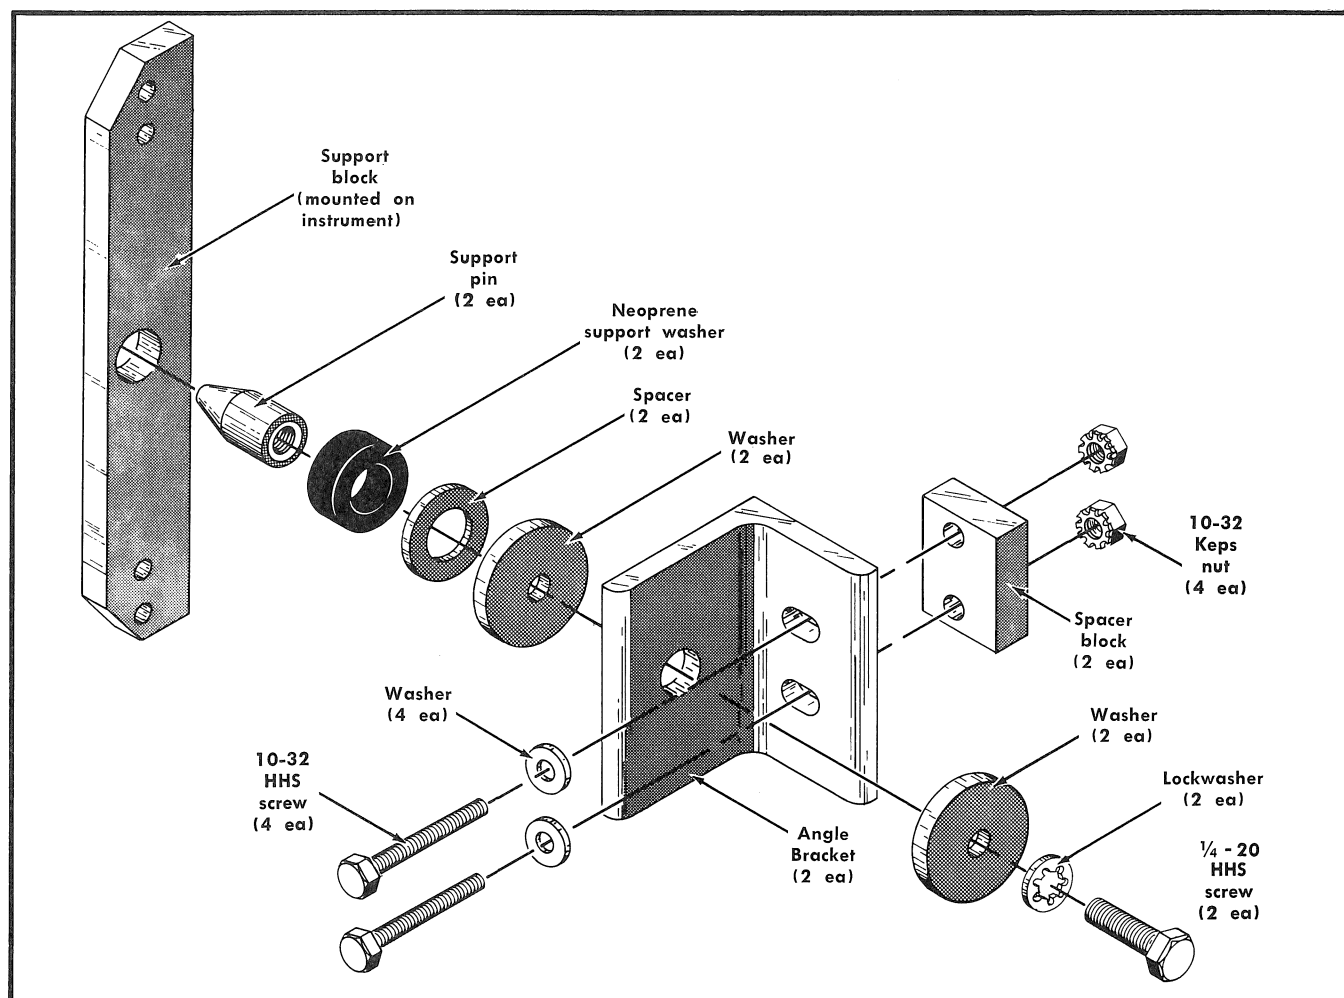

Fig. 5. Rear support kit.
The following mounting procedure uses the rear support kit (see Fig. 5) to meet the environmental characteristics of the instrument (shock and vibration). Two alternative mounting methods are described at the end of this procedure. However, when mounted according to these alternative methods, the instrument will not meet the given environmental characteristics.
rear rail of the rack. Note that the holes in the spacer block are not centered. Be sure to mount the block with the narrow edge toward the front of the rack; otherwise, the instrument may not slide all the way into the rack. Do not tighten the mounting screws. Fig. 5 shows the parts in the rear support kit and the order in which they are assembled.
4. Assemble the support pin to the angle bracket in the order shown in Fig. 5. Leave the spacer (washer) off, but install the neoprene washer.